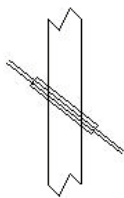

Figure 1
- Radio Shack (RS 15-1200) TV feeder tubes (1). These are 13 inch long plastic tubes that can be run in a hole drilled through a house wall or window frame - see Figure 1. Their inner diameter is only big enough to hold a 300 ohm ribbon feeder or coaxial cable. Something larger is needed for open wire or ladder line. The tube should slope downward to the outside and be sealed with duct seal or (ugh!) tape to keep weather and critters outside.